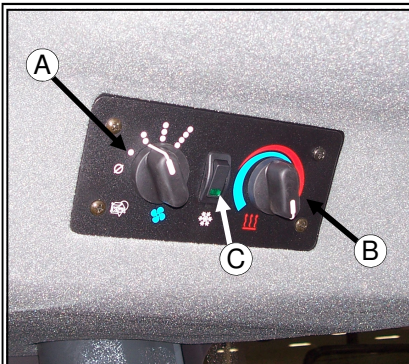

FIG. 30-4
**CLIMATE CONTROLS** - The climate controls (fig. 30-4) are continuous adjusting dial switches located on the front upper cab headliner.
**Adjusting Fan Blower Speed**— fan blower speed is controlled by the left rotary dial (fig. 30-4, item A). To increase the fan speed, rotate the dial clockwise. To reduce the fan speed, rotate the dial counterclockwise. To shut the fan off, rotate the dial all the way counterclockwise.
**Adjusting Temperature Setting**— forced air temperature adjustments are controlled by the right rotary dial (fig. 30-4, item B). Temperature control is a continuously variable adjustment. To increase the forced air temperature, rotate the dial clockwise. To decrease the forced air temperature, rotate the dial counterclockwise.
**Operating the Air Conditioning**— to activate the air conditioner, press the air conditioning switch (fig. 30-4, item C). Adjust fan speed and temperature accordingly. See section B under SERVICE for servicing information.